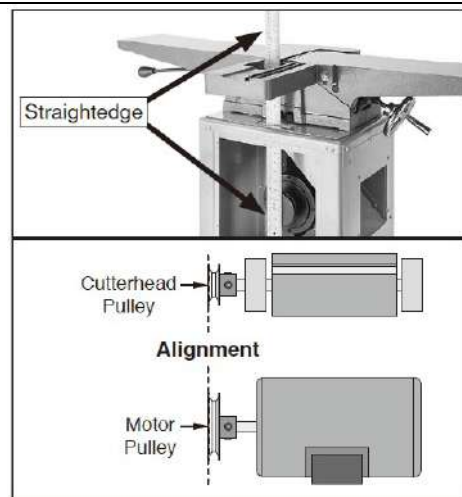
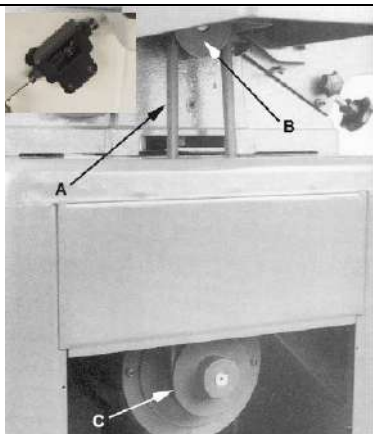
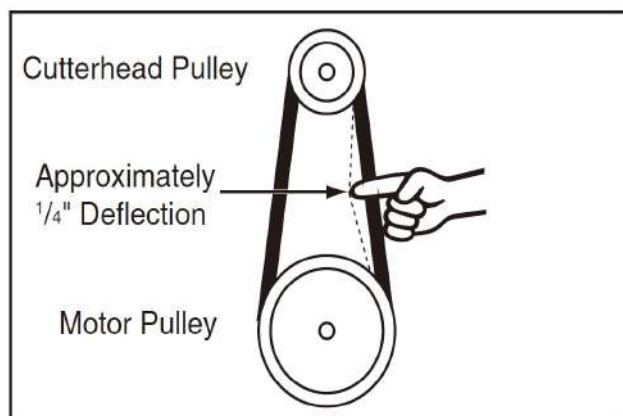

Fig 3
Fig 4
Fig 5
Referring to Fig.3 Fig.4 Fig.5:
5. The V-belt is properly tensioned when finger pressure on the belt half way between the two pulleys causes 6mm(1/4") deflection (Fig. 5). If the belt is too loose, loosen the four motor mount bolts, push down on the motor to tension the Vbelt, and tighten the mounting bolts.